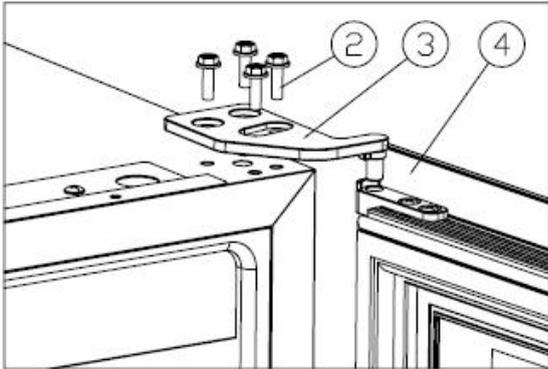

Figure 1
- ✧ Unscrew the M5\*16screws②, dismantle the right upper hinge③, and remove the door.[Figure 1].